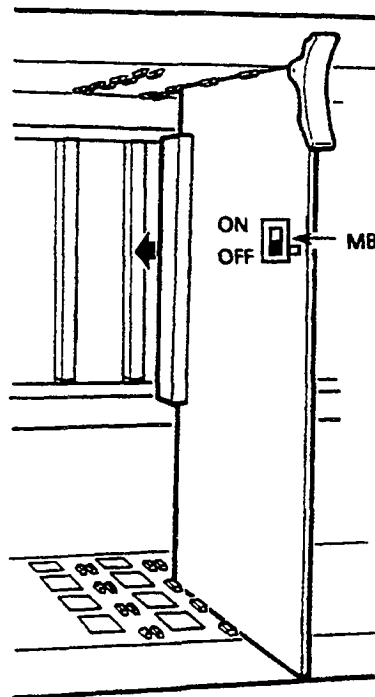

Figure 2-22 KTU Positions on the KSU
2. A switch (MB) is provided on the KTUs (except the CPU and MMC KTUs) to protect circuitry from any damage during installation. When the system power is ON (while installing KTUs), ensure the MB switch is OFF. Refer to Figure 2-22 - KTU Positions on the KSU.